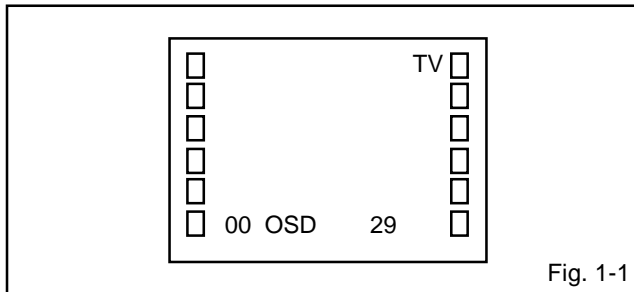

Fig. 1-1
1. In the condition of NO indication on the screen. Press the VOL. DOWN button on the set and the Channel button (9) on the remote control for more than 2 seconds to appear the adjustment mode on the screen as shown in Fig. 1-1.
4. Activate the adjustment mode display of Fig. 1-1 and press the channel button (01) on the remote control to select "CUT OFF".
4. Activate the adjustment mode display of Fig. 1-1 and press the channel button (12) on the remote control to select "R. BIAS".
10. If the picture is too much green. Activate the adjustment mode display of Fig. 1-1 and press the channel button (28) on the remote control to select "CB PED".
12. If the picture is too much red. Activate the adjustment mode display of Fig. 1-1 and press the channel button (29) on the remote control to select "CR PED".
3. Activate the adjustment mode display of Fig. 1-1 and press the channel button **(07)** on the remote control to select "V. SIZE".
3. Activate the adjustment mode display of Fig. 1-1 and press the channel button **(08)** on the remote control to select "V. LINEARITY".
2. Activate the adjustment mode display of Fig. 1-1 and press the channel button **(33)** on the remote control to select "LEVEL".
3. Activate the adjustment mode display of Fig. 1-1 and press the channel button **(03)** on the remote control to select "H.PHASE".
1. Activate the adjustment mode display of Fig. 1-1 and press the channel button **(18)** on the remote control to select "CONT. MAX".
3. Activate the adjustment mode display of Fig. 1-1 and press the channel button **(34)** on the remote control to select "SEP 1".
4. Activate the adjustment mode display of Fig. 1-1 and press the channel button **(34)** on the remote control to select "SEP 1".